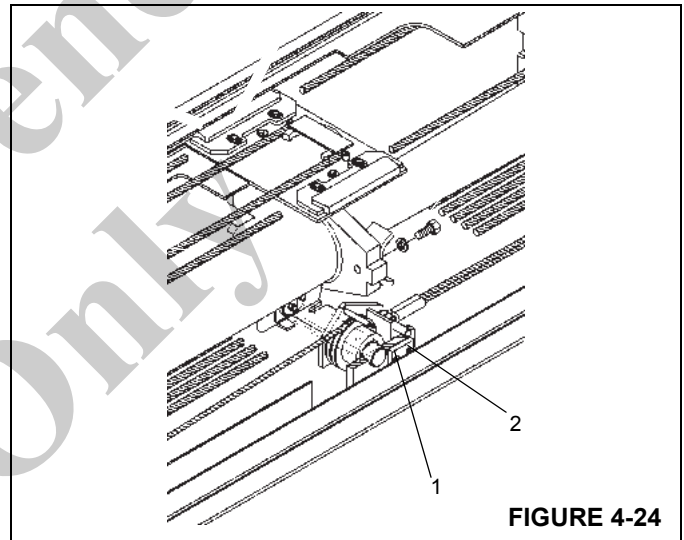

FIGURE 4-24
1. Install the lower rear side wear pads and shims (1) on the outer mid section with two screws (2) each (Figure 4-24).